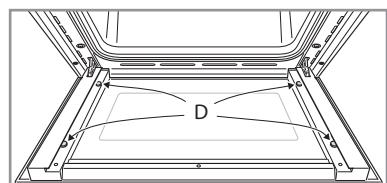

Fig. 25b
- Check the correct positioning of the no.4 (four) silicone rubbers "D" (fig. 25b).